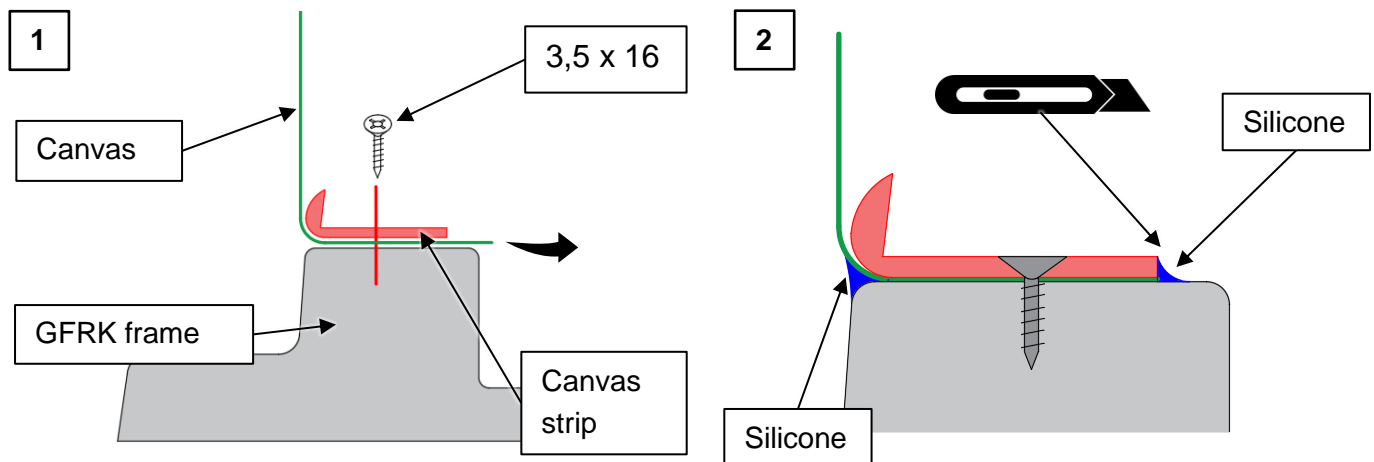

Fig. 4-1: Installation of the canvas [A0004135]
- Tension the canvas completely from the front to the rear (see Fig. 4-1, 1).
- Seal the transition from the vehicle to the canvas with silicone (2). If necessary, mask the body with adhesive tape beforehand. In the area of the hinges you need an extension. This works best with a piece of hose and another grommet.
- Cut off the remaining material of the canvas on the inside and seal the cutting edge with silicone (2).